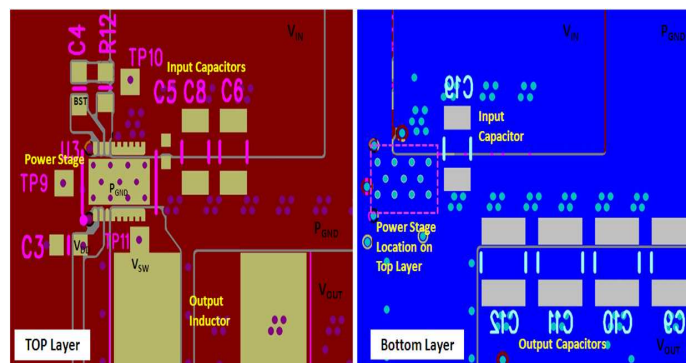

Figure 16. Recommended PCB Layout (Top Down View)
- The placement of the input capacitors relative to V_{IN} and P_{GND} pins of CSD97396Q4M device should have the highest priority during the component placement routine. It is critical to minimize these node lengths. As such, ceramic input capacitors need to be placed as close as possible to the V_{IN} and P_{GND} pins (see Figure 16). The example in Figure 16 uses 1 × 1 nF 0402 25 V and 3 × 10 μF 1206 25 V ceramic capacitors (TDK Part # C3216X5R1C106KT or equivalent). Notice there are ceramic capacitors on both sides of the board with an appropriate amount of vias interconnecting both layers. In terms of priority of placement next to the Power Stage C5, C8 and C6, C19 should follow in order.
- Use the smallest drill size allowed in your design. The example in Figure 16 uses vias with a 10 mil drill hole and a 16 mil capture pad.